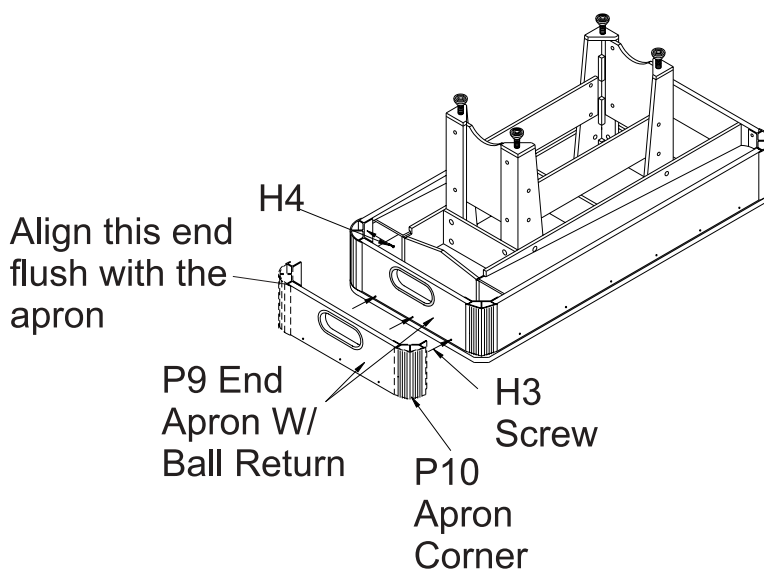

Figure 7
14. Attach two apron corners **P10** to each end of apron ball return panel **P9** with the arrows facing up using screws **H4** as shown in **FIGURE 7**.
15. Attach the assembled apron return panel **P9** to both apron side panels **P7A** and **P7B** using screws **H4**. Attach the apron to the main cabinet **P1** using screws **H3** as shown in **FIGURE 7**.